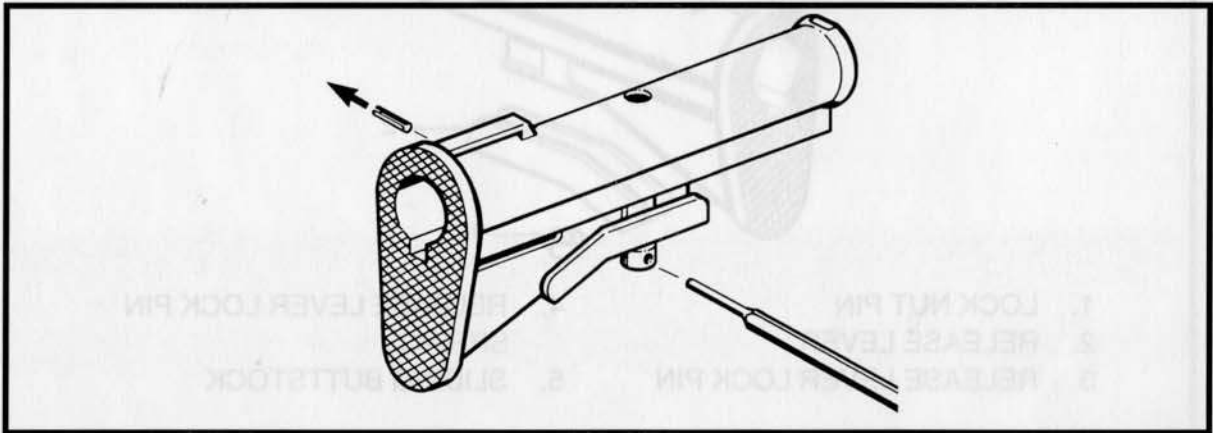

Figure 3-2-55 Removing the Release Lever Nut Pin
- a. Drive out the release, lever nut pin. See Figure 3-2-55;